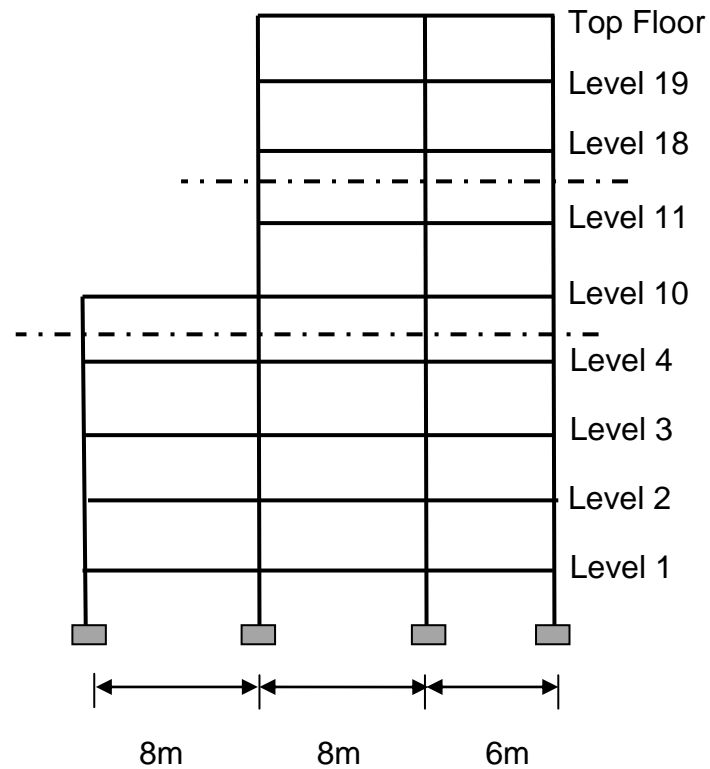

Figure 1
- (b) A 20-storey rigid frame building with setback as shown in Figure 1 is located in Zone I with terrain category 2. The interstory height is 3m. Calculate the value of the design wind pressure on the windward direction at the top floor of the frame as shown in Figure 1 according to MS1553:2002. Please indicate all assumed values used in the calculations. Design data can be extracted from MS1553 (2002).